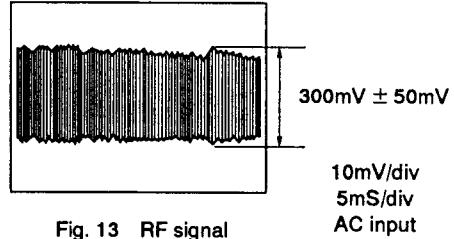

Fig. 13 RF signal
- Adjust VR601 so that the amplitude of the RF signal becomes  $300\text{mV} \pm 50\text{mV}$ . (Fig. 13)